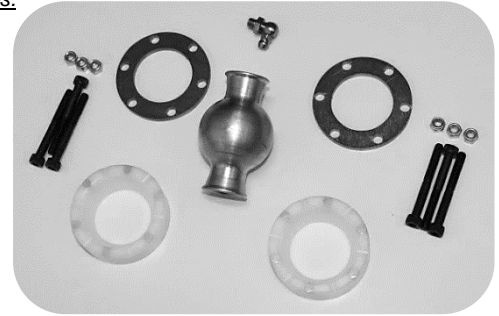

Figure 1
- 2-5/8" flex end race 91118 (2)
- Thrust washer 91119 (2)
- 2-5/8" flex end ball 91117 (1)
- #10-32 nylock nut (7)
- #10-32 x 1-3/4" socket head cap screw (6)
- 90° 1/4"-28 grease zerk fitting (1)
1. Insert two #10-32 socket head cap screws into one thrust washer and one plastic race. Spherical bore of race facing away from thrust washer. (Figure 1)